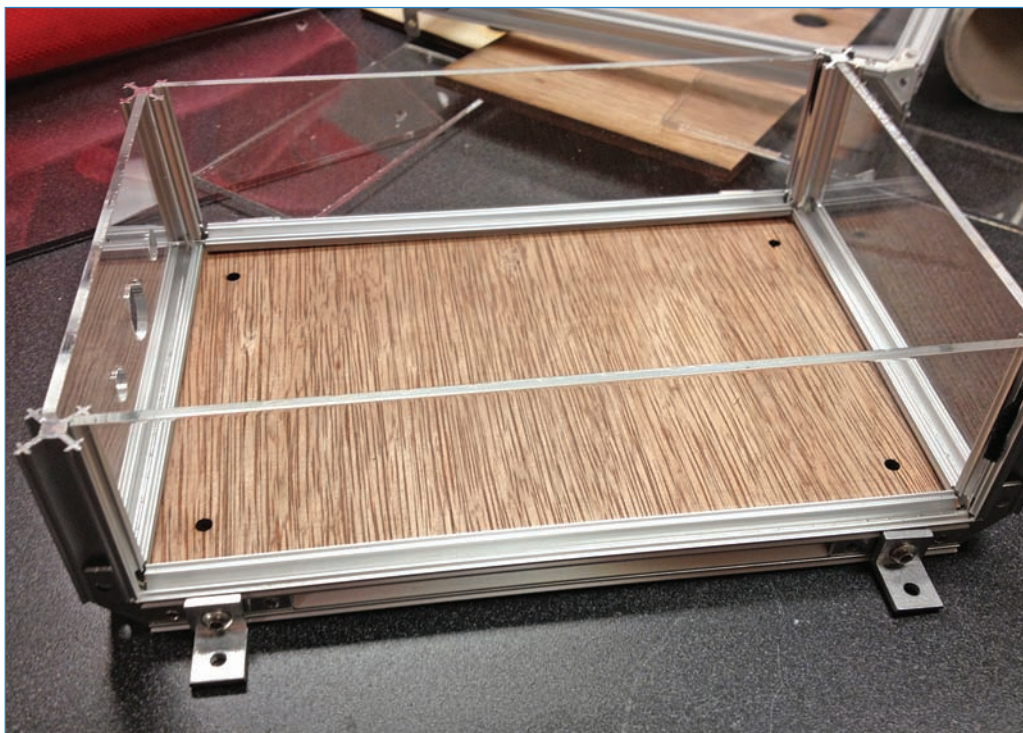

FIGURE 3.31 The enclosure begins to take shape.
5. While you're building the frame, be sure to add angle braces (shown in Figure 3.31) to connect the enclosure to the coffee table. Note that I made the bottom panel out of wood to make it easier to connect the Arduino to the enclosure. Finish adding the other panels and beams, leaving the top unsecured until you add the electronics.